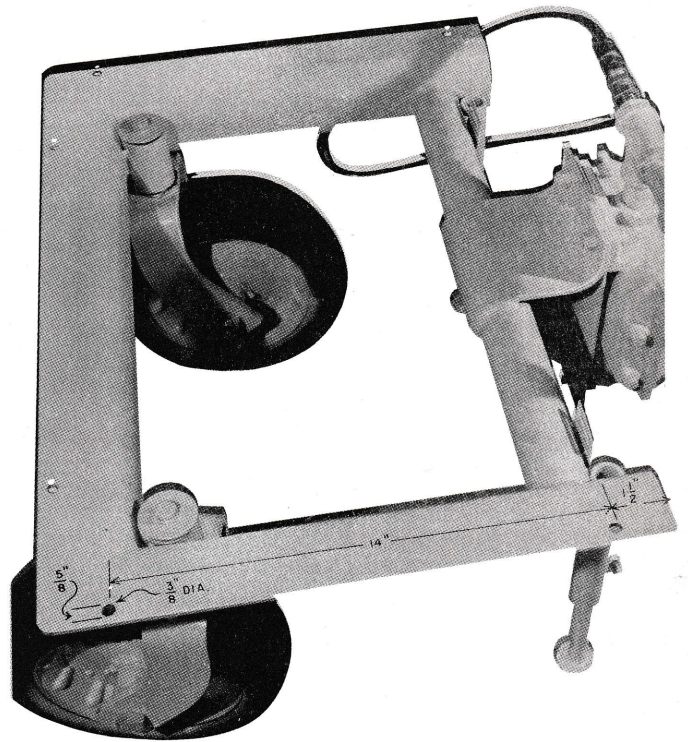

Figure 2
4. Drill two 3/8 inch diameter holes in each side of the sprayer frame. See Figure 2.(four locations)